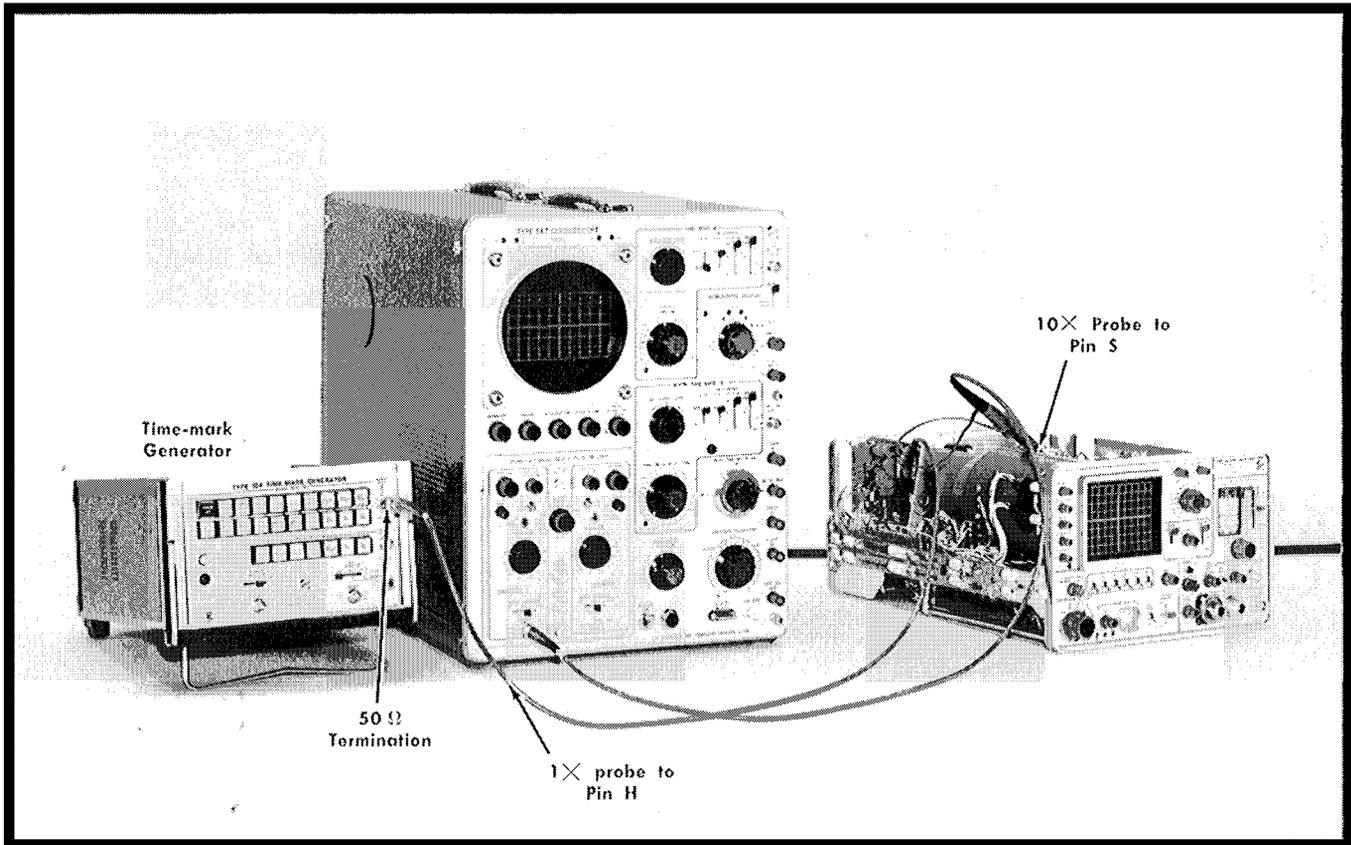

Fig. 6-14. Equipment setup to check and adjust sweep circuits, Steps 12 through 20.
- a. Equipment setup is given in Fig. 6-14.
- Test equipment setup is given in Fig. 6-14.